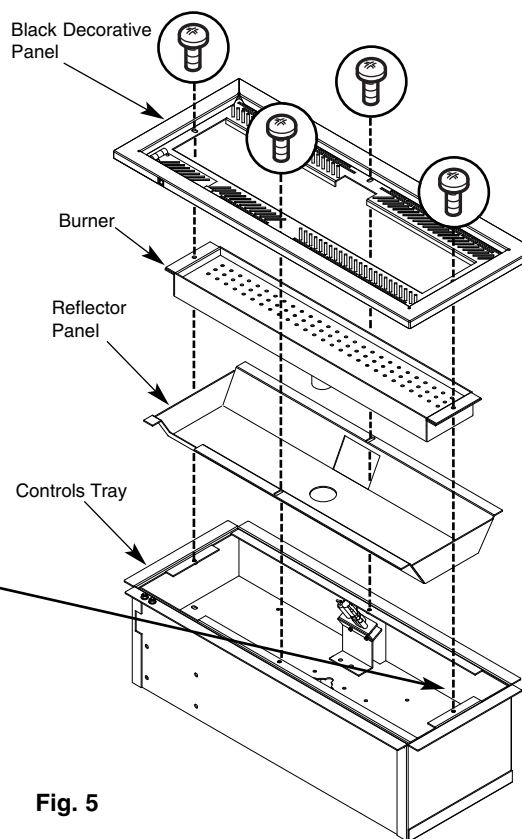

Fig. 5
3. Remove the burner and carefully lift the reflector panel out of the controls tray. (Fig. 5)